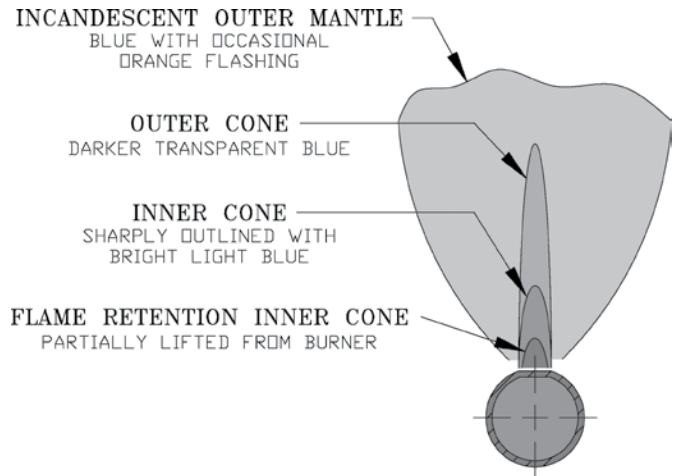

Figure 11: Main Burner Flame
5. Check main burner flames through observation port. See Figure 11. Flame should have clearly defined inner cones with no yellow tipping. Orange-yellow streaks caused by dust should not be confused with true yellow tipping. If yellow flames are observed, follow instructions TO TURN OFF GAS TO APPLIANCE (see appropriate figure as listed in Table 1) and contact qualified service agency.